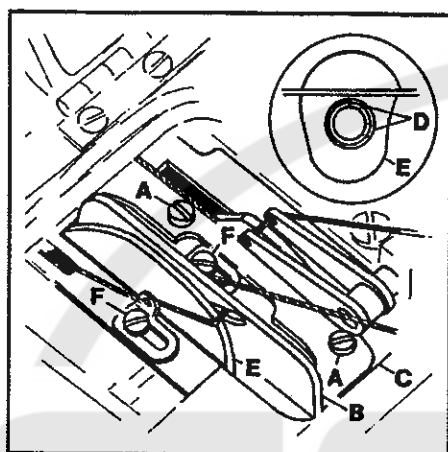

FIG. 33
Loosen screws (A, Fig. 33) and position looper thread cast-off (B) flush with the right end of cast-off support plate (C). Tighten screws (A). Loosen screws (D, Fig. 33 inset) and time take-up (E) so the thread will cast-off when the needle bar has descended  $7/64"$  (2.8mm) from its highest position. When thread eyelets (F) are moved further to the left the amount of thread pull-off will increase.